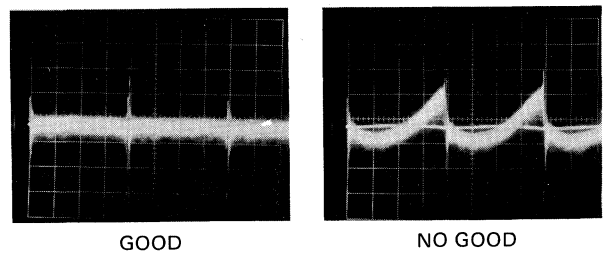

Fig. 4-2-44
(2) B signal vertical shading adjustment
- Adjust B-V.PARA VR5 and B-V.SAW VR6 to make the waveform as flat as possible. (Fig. 4-2-44)